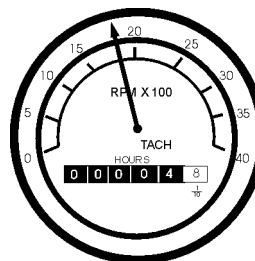

Figure 31. Engine Tachometer
15. The tachometer (Figure 31) will indicate the speed of the engine when the generator is operating. Under normal operating conditions this speed is approximately 1800 RPM's.